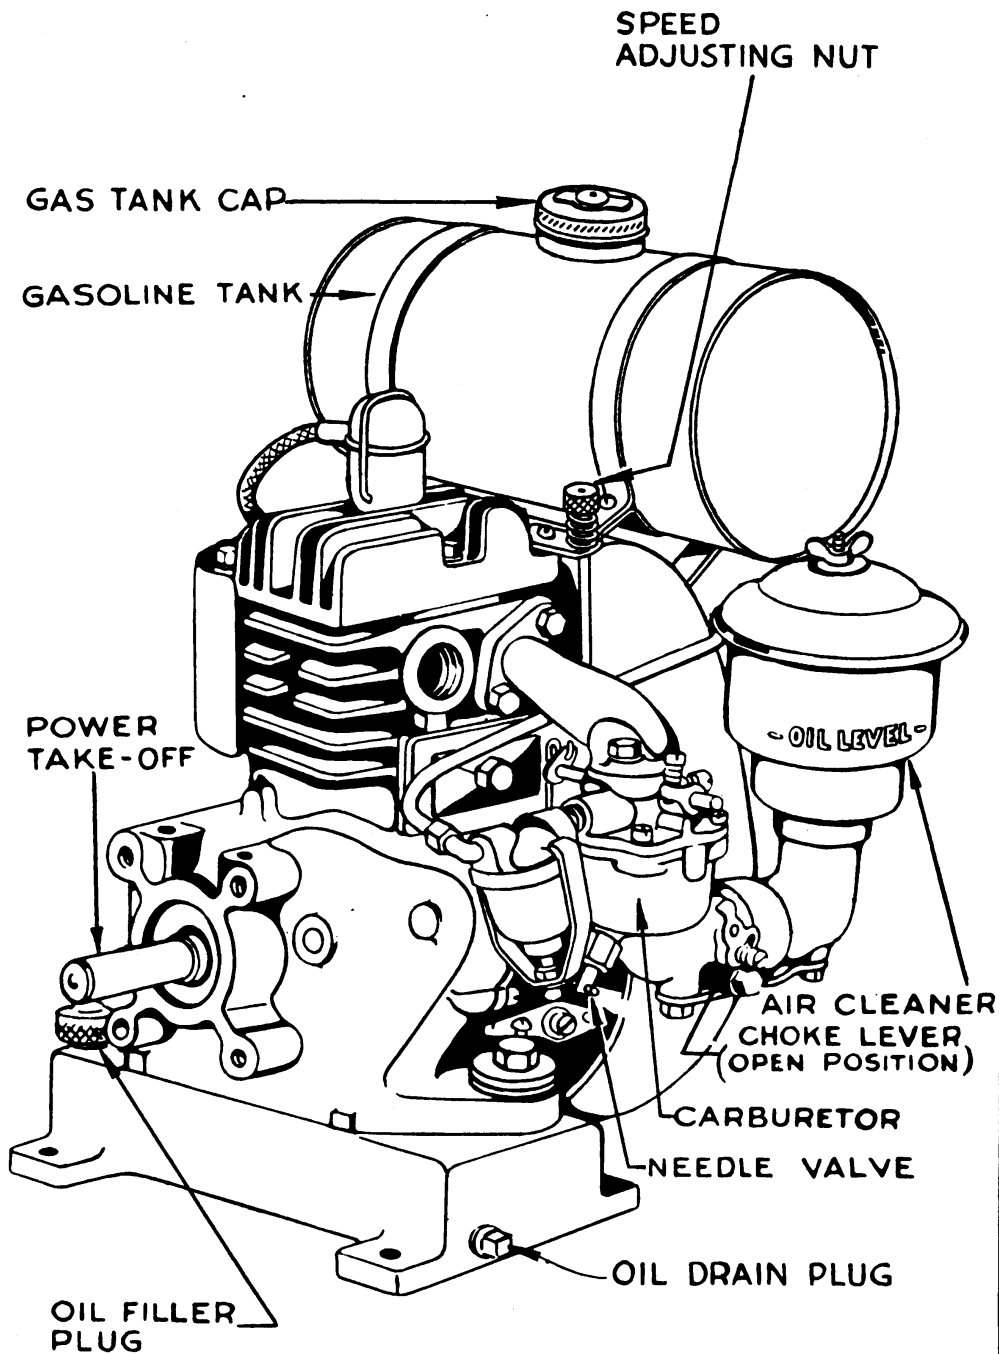
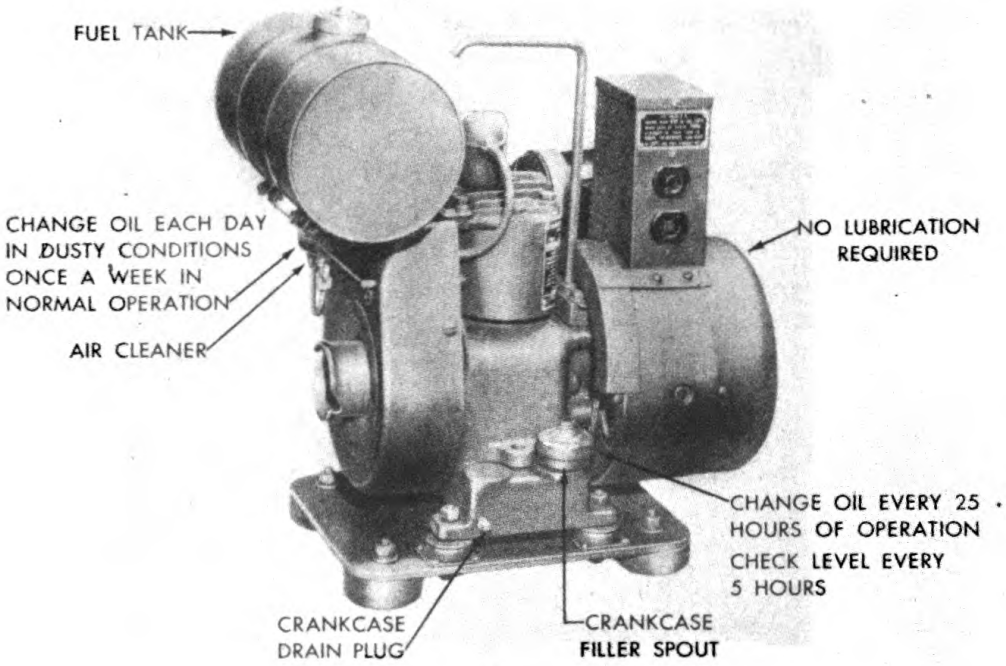

Figure 2.—Engine for Power Unit PE-77-E
Figure 3.—Lubrication
c. Engine.—The engine is a single-cylinder, four-cycle, L-head, air-cooled, rope-starting gasoline engine (fig. 2).
6. PREPARATION FOR USE.—*a.* Remove the oil filler cap which is painted blue and located on the top of the engine base (fig. 2). and fill the crankcase of the engine with a high-grade lubricating oil (fig. 3 for proper oil).
7. OPERATION.—a. Starting.—(1) Open gasoline shut-off valve (fig. 2) on top of the gasoline tank (at the bottom of the gasoline tank on PE-77-E) by turning valve to the left and allowing the carburetor float chamber to fill up. Completely close carburetor choke by turning choke lever to the left (fig. 2). If engine is hot it may not be necessary to close choke.
(2) Insert the knotted end of the starter rope in the notch of the starter pulley and wind the rope clockwise around the pulley. Crank the engine a few times to prime it. After the engine has been primed, open choke about half-way and repeat the cranking operation to start the engine. As the engine warms up gradually, open choke by turning the choke lever (fig. 2) toward the right until the engine operates smoothly with the choke wide open.
(3) If it is necessary to keep the choke partially closed for several minutes before the engine runs smoothly, the carburetor is set too lean and the needle valve located in the lower part of the carburetor (fig. 2, 8 or 9) should be opened slightly by turning to the left (counter clockwise).
13. LUBRICATION.—*a. General.*—Correct lubrication of the engine is important. Lubrication data must be observed. The chart shown in figure 3 gives the proper oil to use at various temperatures and lubrication points. Lubrication of the generator is not required.
b. Crankcase.—(1) Check the oil level in the crankcase every 4 hours of service or every gasoline refill period. Add sufficient oil to bring the level up even with the top of the (blue) oil filler cap opening.